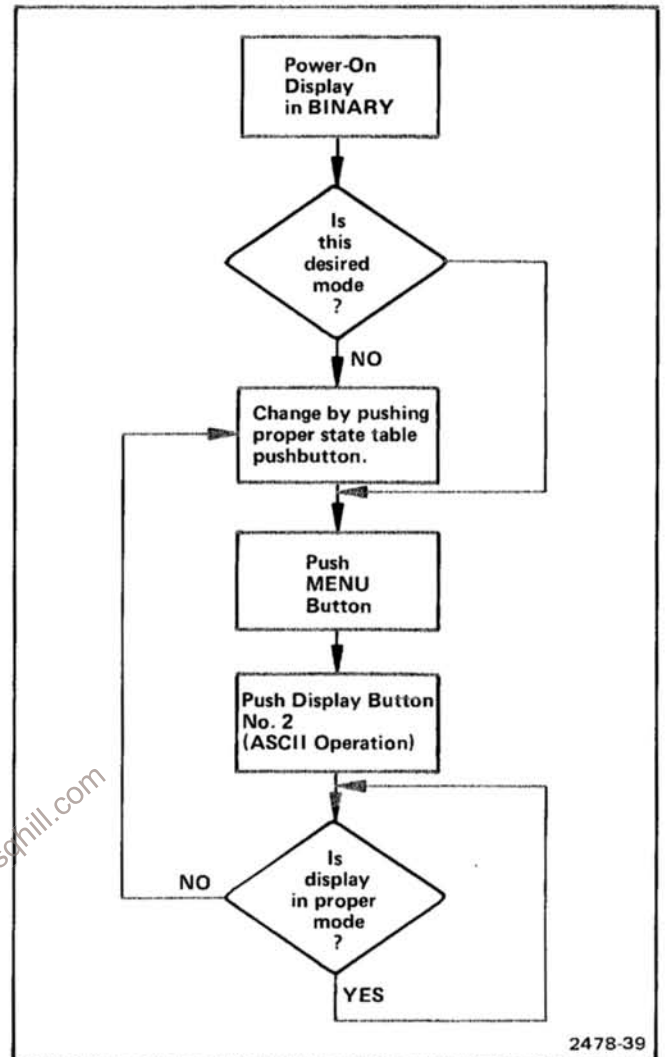

Figure 4-3. Changing display mode in ASCII operation.
- c. The number to the right of the ASCII character (or mnemonic) is its value in either hex ("\$" precedes the value), octal ("@" precedes the value), or binary depending on which STATE TABLE push button (HEX, OCTAL, or BINARY) was depressed prior to selecting the MENU push button. See Figure 4-3.